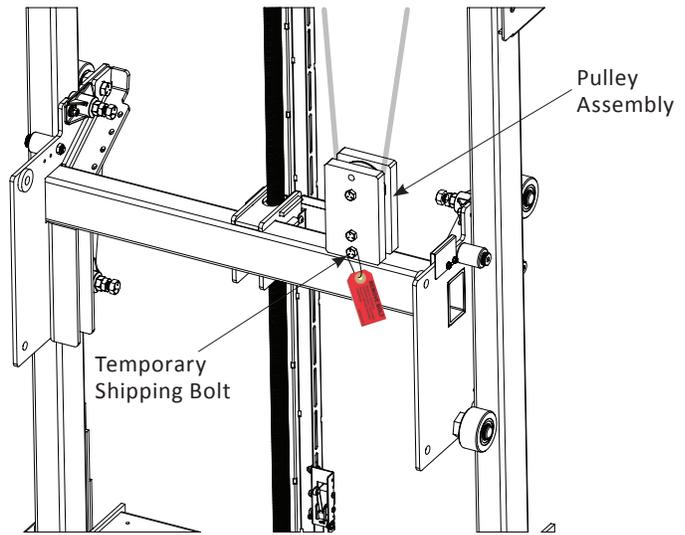

Figure 4-2
1. Remove and discard the temporary bolt and nut ( $\frac{9}{16}$ " hex) that secures the tensioning pulley to the carriage for shipping. This bolt is indicated with a red tag. Suspend the pulley assembly behind the carriage. *See Figure 4-2.*